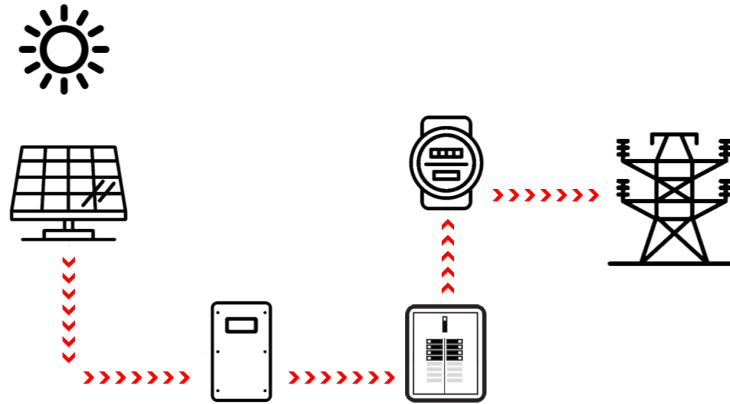

Figure 1 – Normal GDI Power Flow
Figure 1 shows the current path for a normal GDI from the PV panels through the inverter, to the main service panel and on out to the grid. In a typical GDI application, power produced from the PV array is consumed by loads connected to the main service panel with excess power going out to the grid. However, with grid loss the GDI has no way to synchronize itself to the grid, a requirement for operation — so it shuts down and is unable to use any renewable energy (RE) from the PV array.